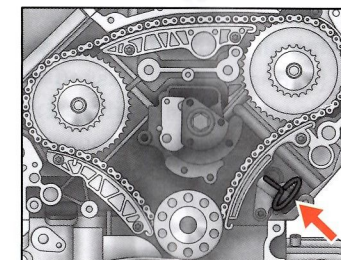

Fig.49
- (1) Select the appropriate Tensioner Retaining Pin. Press the chain tensioner rail, compressing the tensioner plunger and retain in place using Tensioner Retaining Pin (Part No.I or J). (Fig.49)